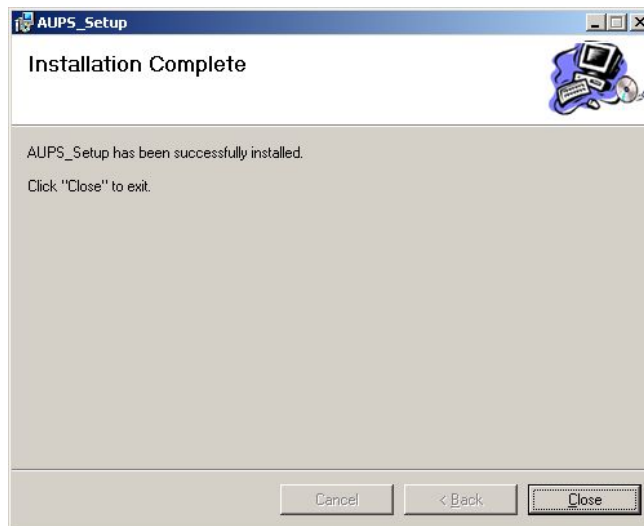

Figure 8-5: Installation Complete
Step 6: The Installation Complete window appears (**Figure 8-5**). Click **Close** to exit.